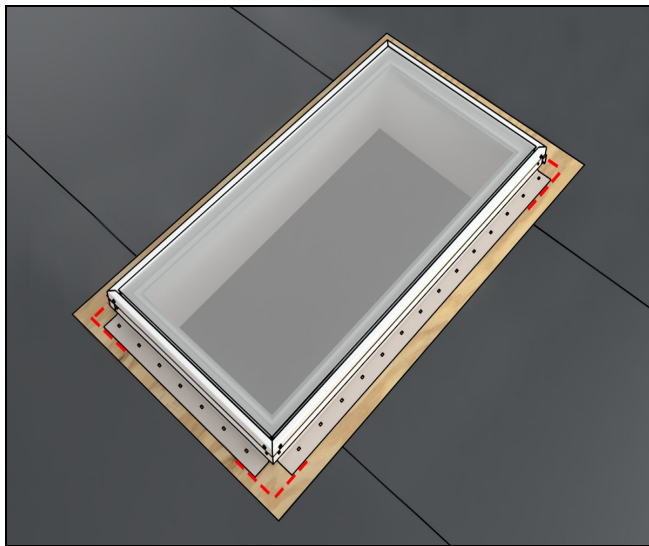

Figure 10
8. Center unit over rough opening as shown in Figure 10. To position unit do not slide unit, lift or use suction cups for positioning. Sliding unit will cause damage to foam sealing gasket.